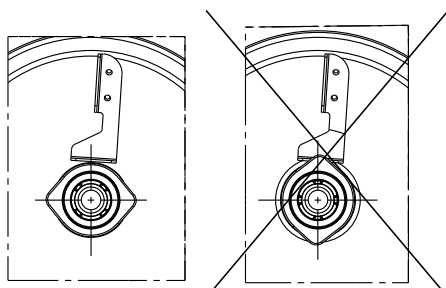

**Fig. 10** Fitting the O-ring on the stationary shaft seal part
1. Fit cover plate (pos. 32) and O-ring (pos. 31). Lubricate the O-ring. See section 3. *Tightening torques and lubricants*.
2. Fit O-ring (pos. 102) on the stationary shaft seal part. See fig. 10. See section 3. *Tightening torques and lubricants*.